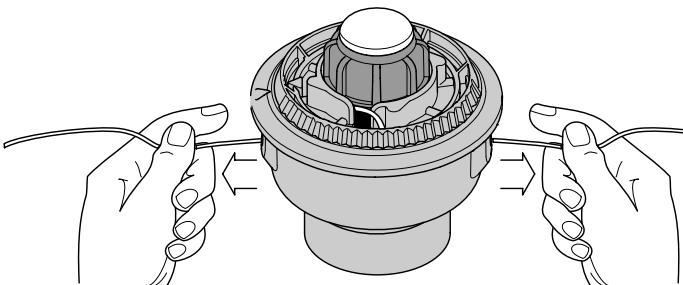

Fig. 22
9. If winding the line becomes difficult or the line jams, pull the ends of the line from the spool (Fig. 22). Continue winding the inner reel counterclockwise .
4. Hold the inner reel in place and install the bump knob, spring and foam seal. Press down and turn the bump knob clockwise. Grasp the ends and pull firmly to release the line from the holding slots in the inner reel. (Fig. 22).
If the SpeedSpool® does not release line correctly, pull the ends of the line firmly from the spool (Fig. 22). If this does not release line, follow the **Cleaning the SpeedSpool®** instructions.